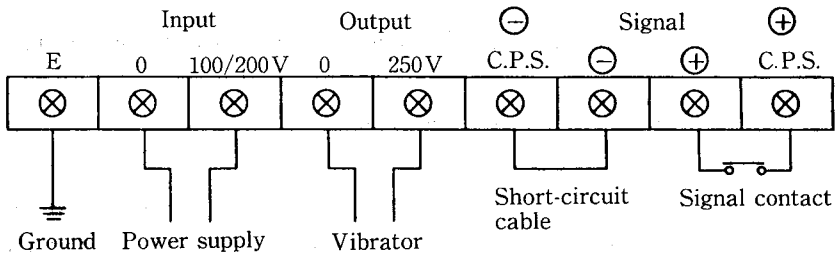

Figure 6.3 ON/OFF control using an external contact
In above example, the vibrator is started and stopped by turning the controller's power supply switch on or off. If the vibrator must be turned on and off frequently, the connections shown in Figs. 6.3 or 6.4 are recommended.
(2) Figure 6.3 illustrates a sample connection when a contact is used as the external signal.